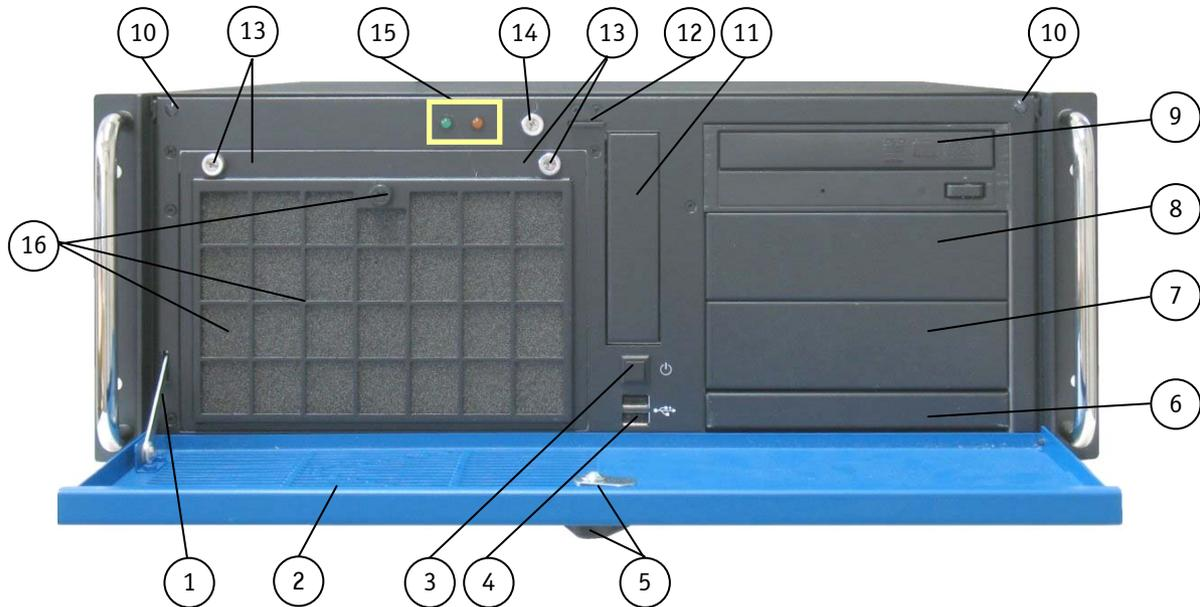

Fig. 12: Front side (rackmount version) with opened access panel
#### Legend for Fig. 12 and Fig. 13:
The KISS 4U V2 platform is equipped with two USB interfaces on the front side (see Fig. 12, pos. 4 and Fig. 14, pos. 2). You can connect various USB devices to these two USB 2.0 interface connectors.
The power button (see Fig. 12, pos. 3 and Fig. 14, pos. 1) is located on the front side of the system, behind the front access panel. Press this button to turn the system on or off.
When the KISS 4U V2 system is powered on with the power button (Fig. 12, pos. 3) the green Power-ON- LED (Fig. 21 and Fig. 22) of the DC PSU (on the rear of the system) lights up.
Even when the system is turned off via the power button (Fig. 12, pos. 3) there is still a standby-voltage of 5 Vsb on the motherboard or SBC.
The indicators (see Fig. 12, pos. 15) of the KISS 4U V2 platform are located on the front side, behind the front access panel.
The cover fastening screw (Fig. 12 and Fig. 13, pos. 14) secures the cover to the chassis on the front side.
- The cover fastening screw (Fig. 12 and Fig. 13, pos. 14 and Fig. 28) on the front side
The two system fans are integrated in a user-friendly, replaceable fan slide-in module (hot-swap) (see chapter 8.3 "Fan Slide-in Module and Temperature Sensor"). The fan slide-in module (Fig. 12 and Fig. 13, pos. 13) can be replaced during operation (see chapter 10.2 "Replacing the System Fans").
The filter mat and the filter mat holder (Fig. 12 and Fig. 13, pos. 16) are located behind the air grilles of the front access panel (Fig. 10, pos. 3). The filter mat holder is fastened to the fan slide-in module (Fig. 12 and Fig. 13, pos. 13) via two knurled screws and two positioning plates. A filter mat is inserted in the filter mat holder. This filter mat protects your system against dust and dirt (see chapter 10.1 "Cleaning the Filter Mat").
Depending on the ordered system configuration, the system can be equipped with up to five drives on the front side (see Fig. 12 and Fig. 13, pos. 6, 7, 8, 9, 11):